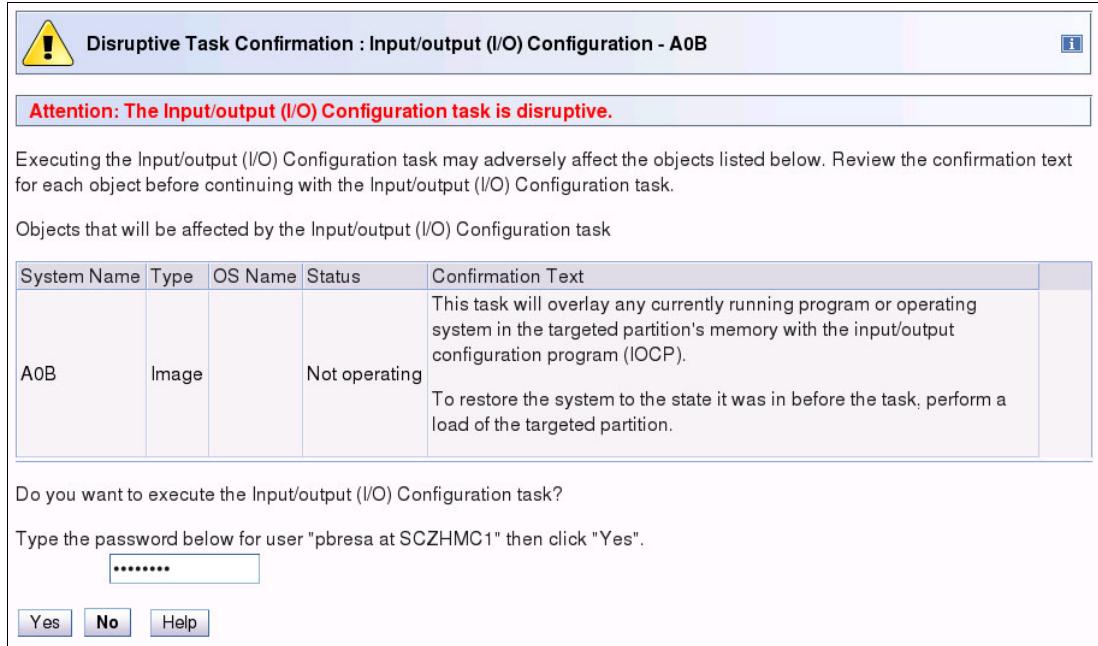

Figure 8-126 HMC - SAIOCP - build warning window
17. Observe the Build warning message, enter your HMC password, and click **Yes** (Figure 8-126).